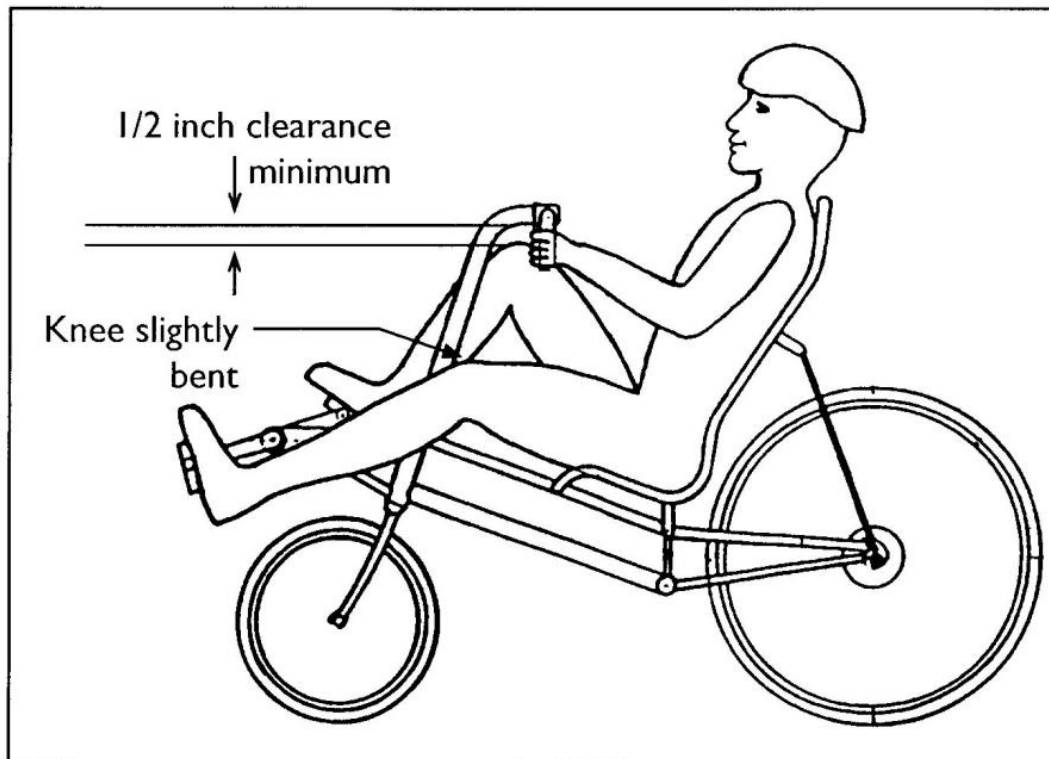

FIG. 2-1
- B) Slide the cranks in or out until your legs are slightly bent at their furthest extension. (See Fig. 2-1). It's better to have the cranks too close when making the initial adjustment than too far away.
- B) Adjust the handlebars up or down so that there is approximately 1/2 inch of clearance between your knees and the handlebars (see Fig. 2-1).